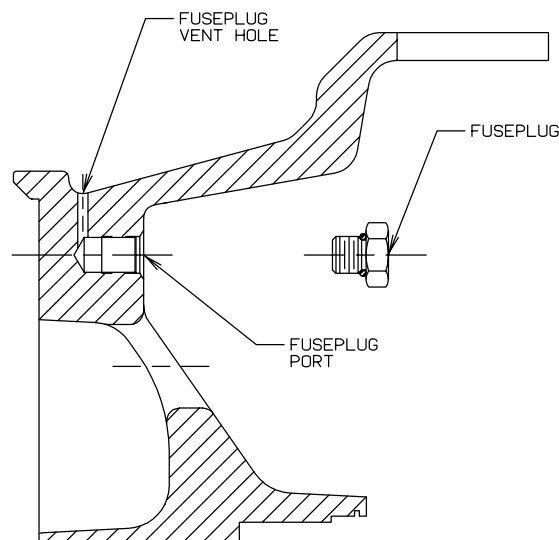

Figure 1
2. Insert a wire of diameter .045 - .062 in. (1.14 - 1.57 mm) into each fuseplug vent hole (see Figure 1).
3. If the wire cannot be inserted so that it is visible in the fuseplug ports, contact Parker Hannifin at (800) 272-5464.